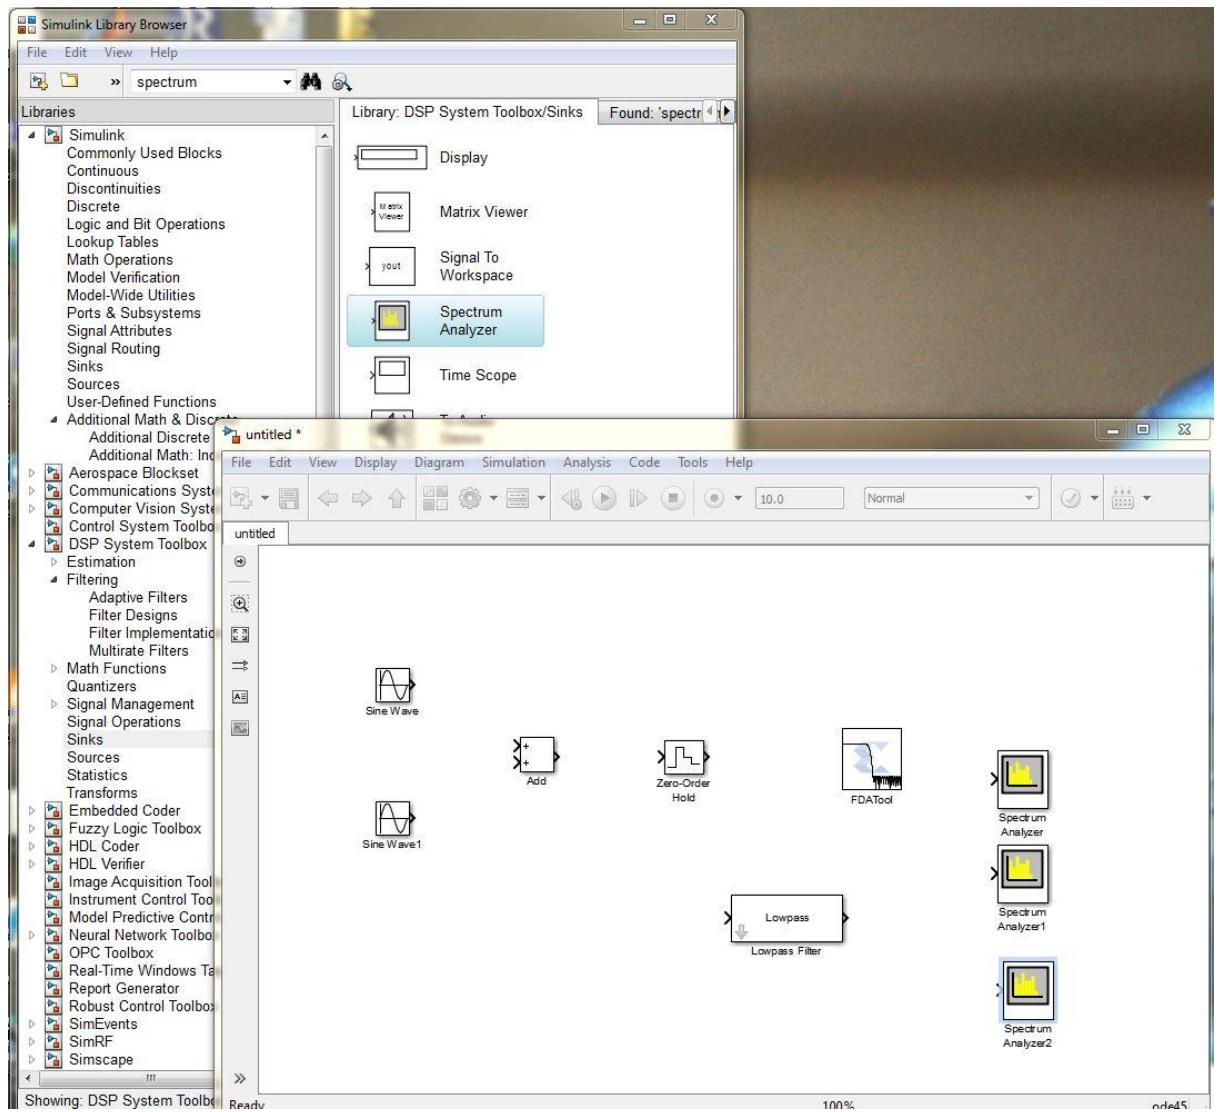

Figure 7: Addition of Spectrum Analyzer.
8. Add **three Spectrum Analyzer**: *DSP System Toolbox > Sinks > Spectrum Analyzer* as shown in figure 7.